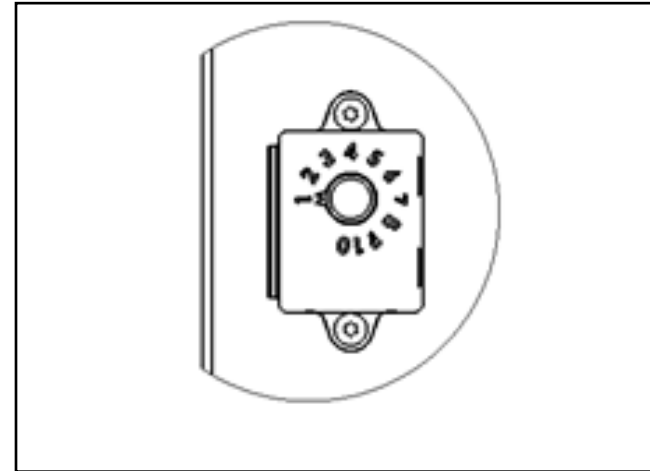

Figure 2.
2. FADC has ten settings, as indicated from 1 thru 10. (Figure 2)